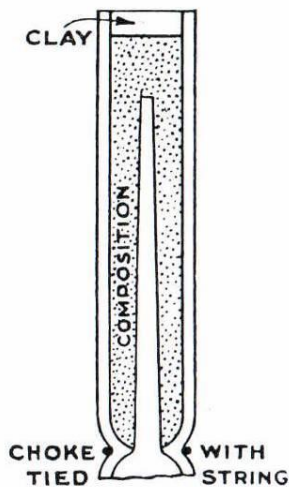

FIG. 147.
As proof of his approbation of rockets, Johnson includes Fig 147 in his text, conceding "for a certain class of experiments such a source of power might be useful" and gives details of its fabrication, the composition of the black powder, and the somewhat alarming instructions: "The composition is firmly consolidated about half an inch at a time with about twenty moderate blows of a mallet". Should the modeller survive this process with his faculties and digits intact, and dares to ignite his 'source of power', Johnson assures him: "the rocket does not necessarily explode when the composition is consumed . . . the duration of its flight is only a few seconds, five to seven according to the strength of the composition . . . the 'rush' [sic] is therefore violent. This rapidity of flight seems to be the drawback to its use". The only other data Johnson gives is that his signal rocket has a 1" bore, a length of 8.25" and has a flight of about 1000 ft. Hmm ... not really suitable for a model aeroplaning then!
'Fig 147' (above) is very similar to an illustration Lawrence Sparey used in his wartime *Model engineering* article, and the method of making the 'choke' is the same. (See *SAM Speaks*, (SS) June 1999). So now we know where Sparey got his ideas from, but, to be fair to him, he provided much more detailed instructions and carefully defined his motors' dimensions. But, according to Doug McHard ('Sheffield's Secret Weapons Factory', SS, Aug 1999), Johnson's (or Sparey's) methods were most hazardous, so it's good that Rapiers are back and we don't have to resort to such dangerous expedients!